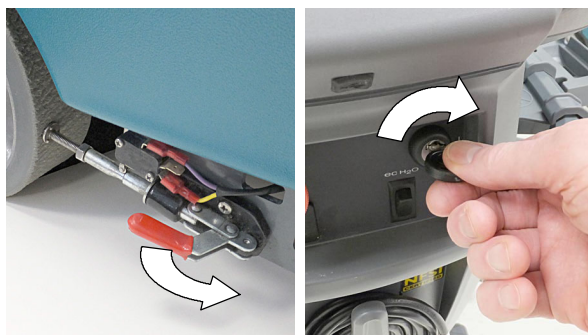

FIG. 65
1. Release the parking brake lever, if equipped (Figure 65)
2. Turn the key to the on (I) position (Figure 65).